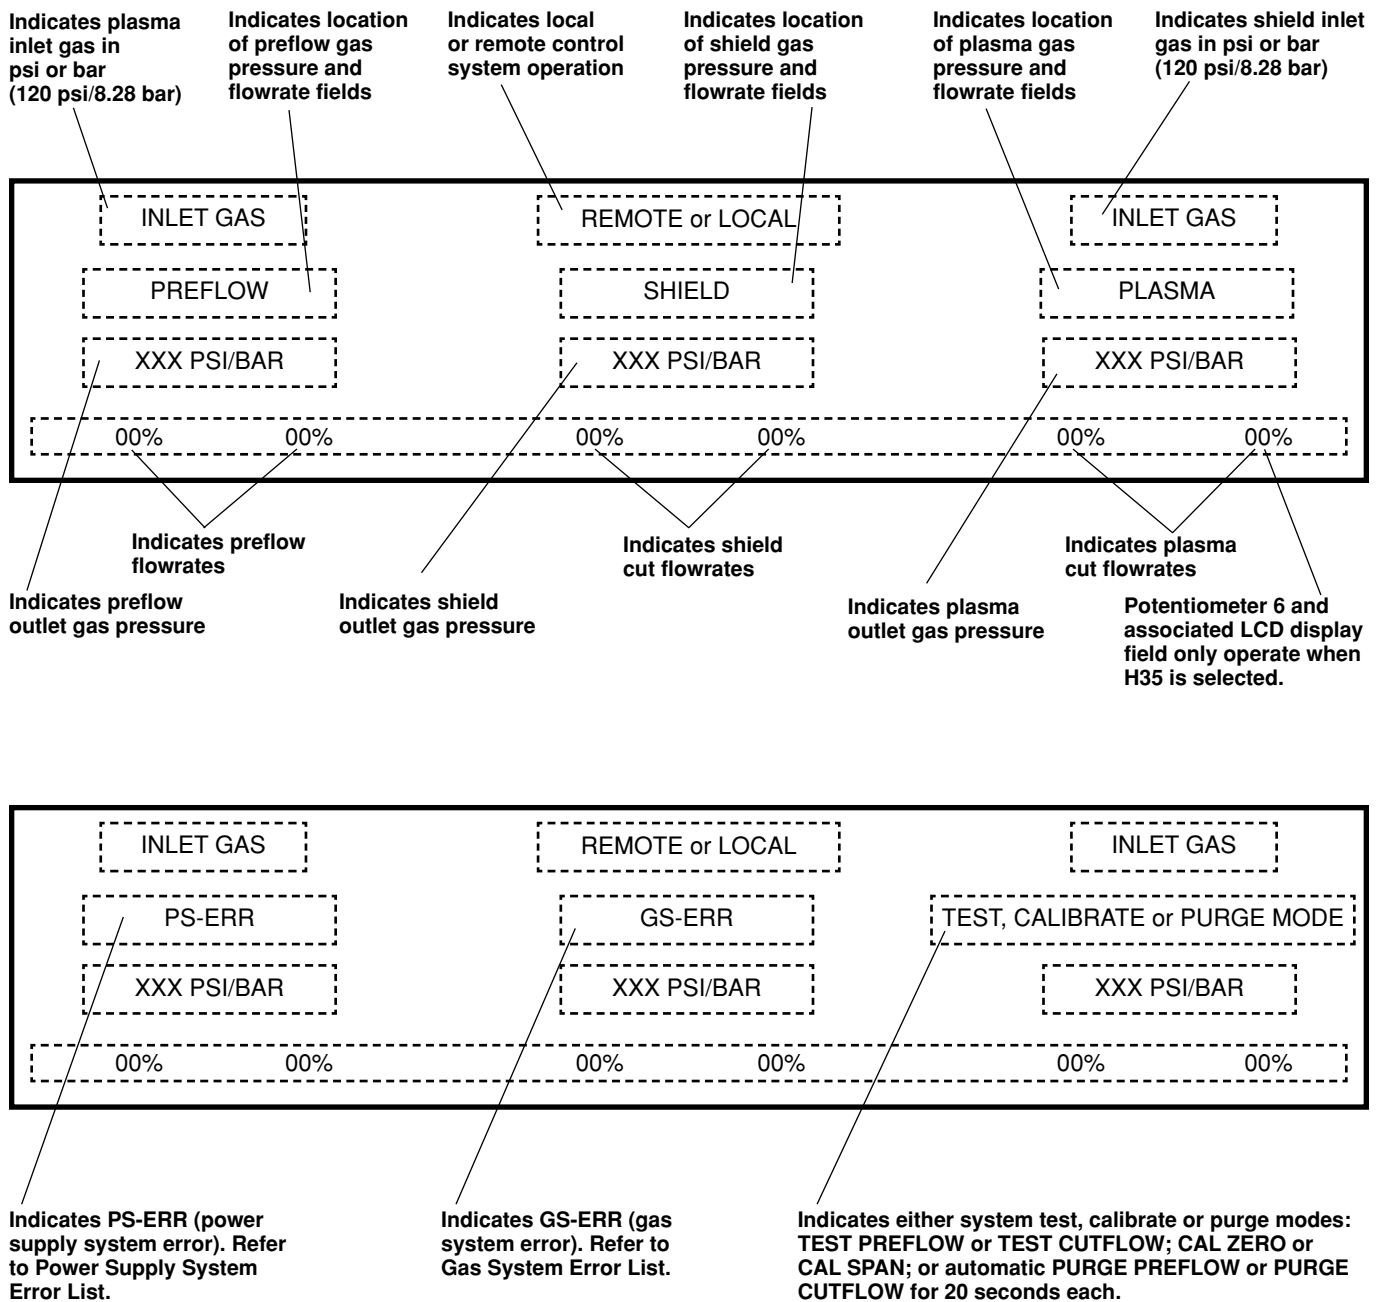

Figure 4-3 Automatic Gas Console Front Panel LCD Display
The LCD display is divided into functional fields. When operating in either the local or remote mode, the following data, as shown in Fig. 4-3, are displayed.
- Depress **POWER ON (1)** switch (PB1) until the **STATUS-COOLANT FLOW LED** lights.
- Ensure the green **POWER ON** indicator (LT1) remains lit. If not check the **STATUS** LEDs on the power supply and check for plasma and gas system error messages on the gas console LCD display. Refer to Figure 4-3 and the *Error Messages* list.
5. Also at initial startup, the gas lines will be automatically purged for 40 seconds total. The gas console LCD display, Figure 4-3 field E will indicate PURGE PRELFOW for 20 seconds and then PURGE CUT FLOW for 20 seconds.
6. Ensure that both the selected plasma and shield inlet gas supplies are available at 120 psi (8.2 bar) dynamic pressure on the gas console LCD display fields (plasma and shield). (See Figure 4-3.)
- Set the test preflow flowrates (1) and (2) as specified in the *Cut Chart*.
- Set the shield test cut flowrates (3) and (4) and plasma test cut flowrate (5) and (6) as specified in the *Cut Chart*.
5. Ensure the POWER INTERLOCKS OK signal is returned to the CNC controller. If not check the **STATUS** LEDs on the power supply and check for plasma and gas system error messages on the gas console LCD display. Refer to Figure 4-3 and the *Error Messages* list.
6. Also at initial startup, the gas lines will be automatically purged for 40 seconds total. The gas console LCD display, Figure 4-3 field E will indicate PURGE- PREL FOW for 20 seconds and then PURGE-CUT FLOW for 20 seconds.